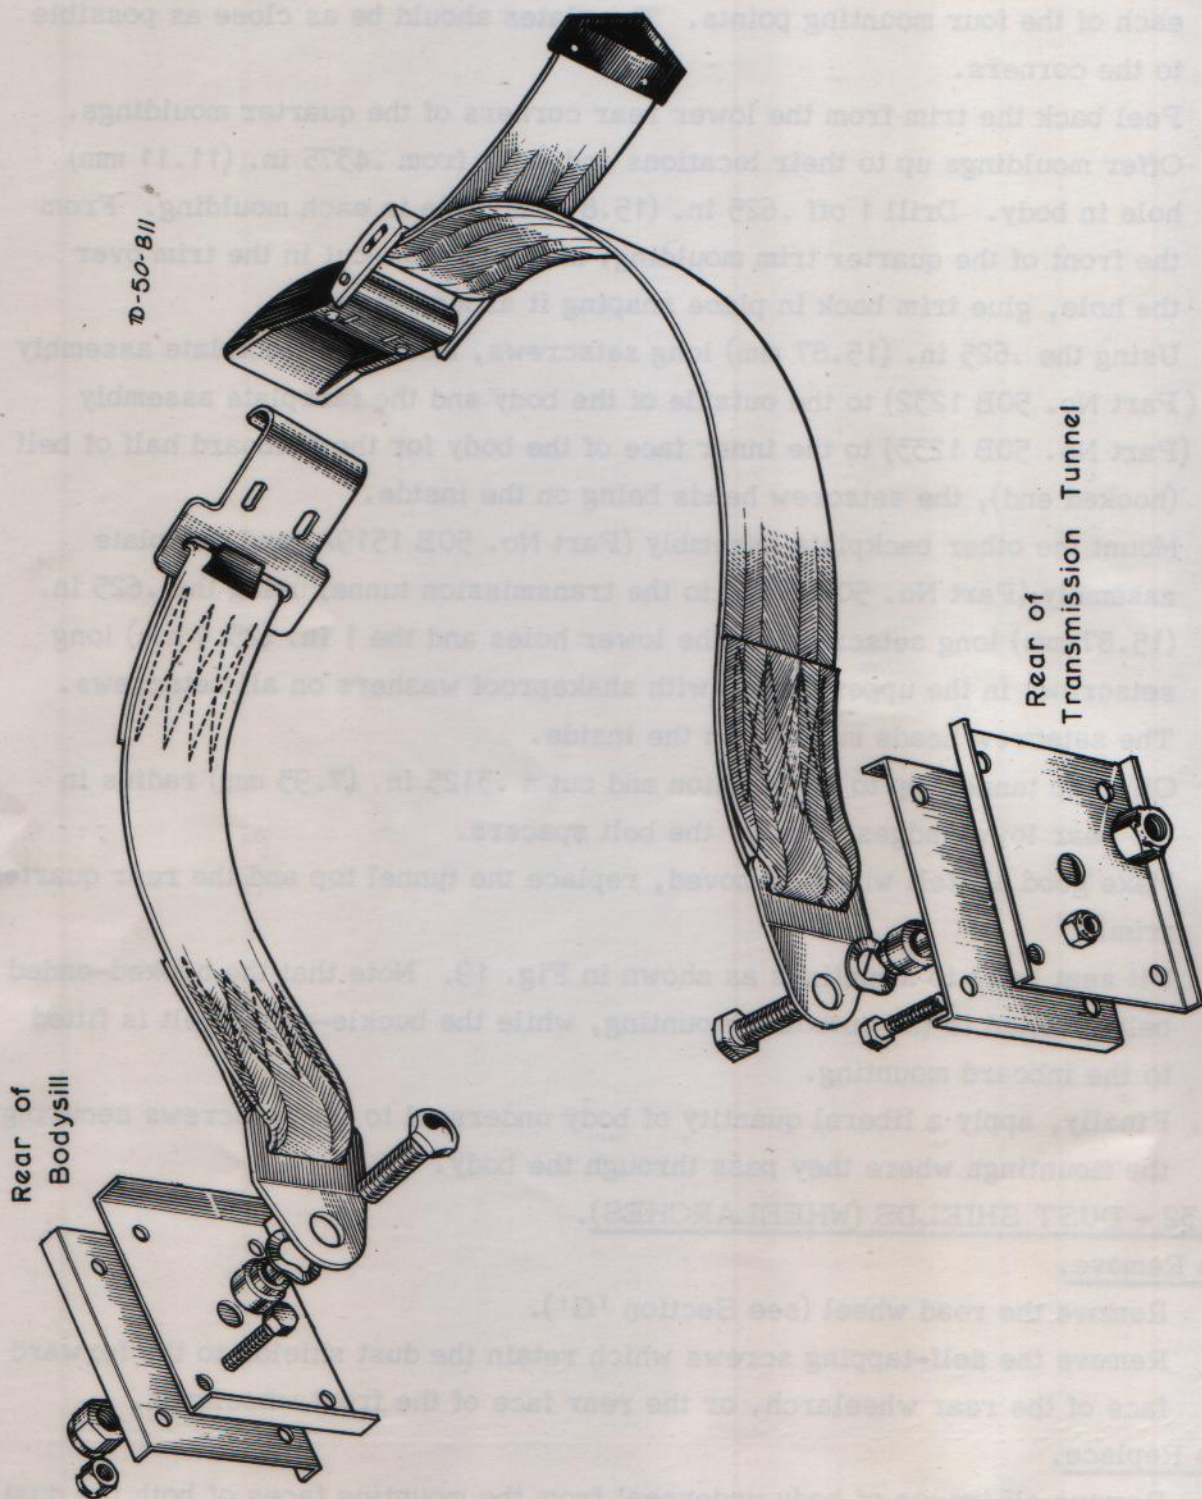

Fig. 19. REAR SEAT BELTS
9. Fit seat belts to mountings as shown in Fig. 19. Note that the hooked-ended belt is fitted to the outboard mounting, while the buckle-ended belt is fitted to the inboard mounting.